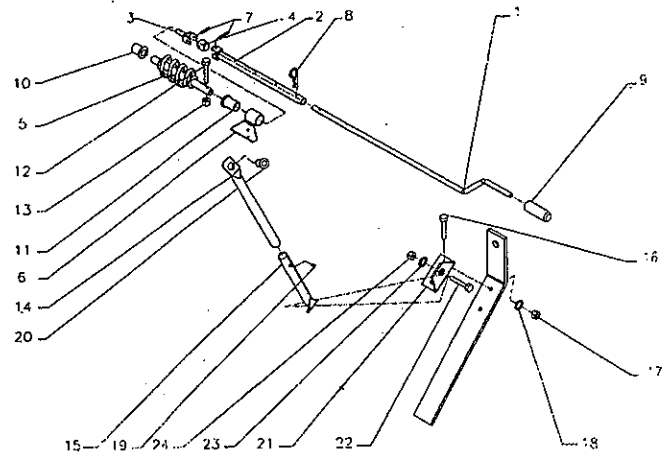

Figure 3A
3. Insert the 1 5/16" plastic bushing (fig.3A, item 10) in the tube welded behind blower (fig.3B, item 1)
4. Install the assembly by placing the worm rotation bracket (fig.3A, item 6) under the right upper plate of snowblower (fig.3B, item 2).
8. Install the support angle (fig.3A, item 21) on the left attaching plate using two 3/8" x 1 1/4" bolts, lockwashers and nuts. Tighten securely.
9. Install anchor tube (fig.3A, item 15) on angle (fig.3A, item 21) so that tube leans toward snowblower using a 3/4" x 1 1/2" bolt, lockwasher and nut.
10. Insert handle bracket (fig.3A, item 14) inside anchor tube (fig.3A, item 15). Secure loosely with a 3/8" x 5/16" set screw.
11. Assemble rotation tube (fig.3A, item 2) with U-joint inside rotation worm. Align holes and insert a 10-24 x 1" capscrew (fig.3A, item 12) from larger hole side of worm so that capscrew sinks in worm. Secure with a nylon lock nut.
12. Install the plastic grommet (fig.3A, item 20) in the handle support.
13. Insert the handle (fig.3A, item 1) inside the grommet and inside the rotation tube (fig.3A, item 2). Select length, align nearest holes and secure with a 5mm x 100mm hair pin.
15. Install plastic handle (fig.3A, item 9) over rotation handle.